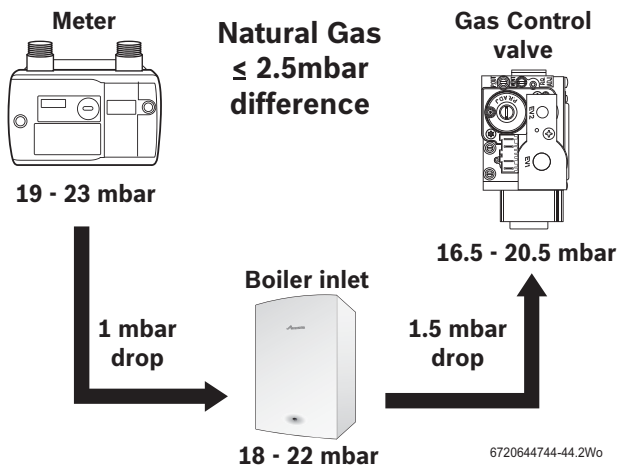
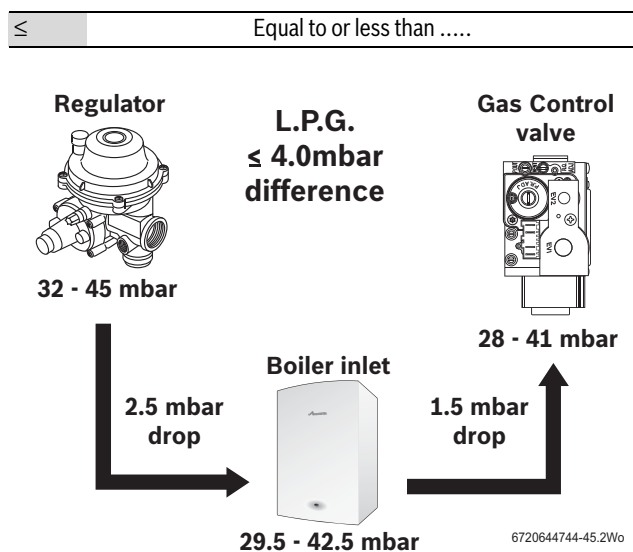

Fig. 43 Natural gas pressures
Fig. 44 LPG pressures
- ▶ Slacken the screw in the inlet pressure test point (1) and connect a manometer.
- ▶ Check the gas supply working pressure at the gas valve conforms to values shown in Fig. 43 or Fig. 44.